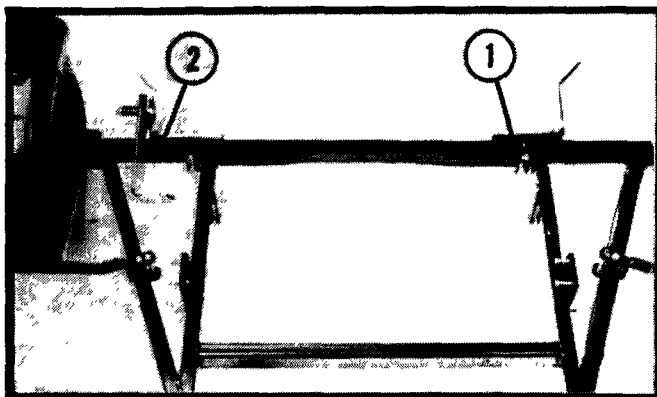

Figure 9
- Place the remaining wire ties so they do not interfere with the adjustment of the wheel stops. Refer to the appropriate equipment illustration to determine the approximate wheel stop spacing (Page 5 - Figure 9, Page 8 - Figure 15, Page 10 - Figure 20) .
2. Mount the wheel stops onto the frame using the 3/8-16 x 2 1/4" screws and nuts. Do not tighten. The bottom screw will pass between the frame and the electrical wiring. The left wheel stop will be located on the inside of the frame member, the right wheel stop (with locking lever in the up position) will be located on the outside of the frame member (See Figure 9). The Lawnaire IV (when mounted) will be slightly off center but will still transport without any problems. If the Lawnaire IV is equipped with narrow tires, the stop brackets will both be located on the inside of the frame members.